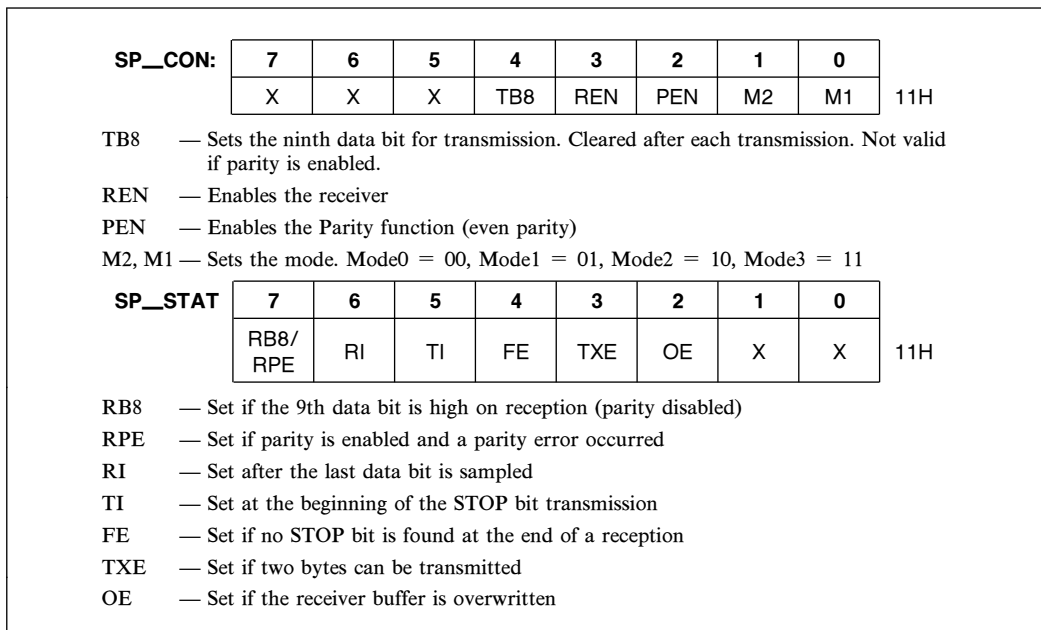

Figure 10-1. Serial Port Control and Status Registers
Control of the serial port is done through the Serial Port Control (SP\_CON) register shown in Figure 10-1. Writing to location 11H accesses SP\_CON while
reading it accesses SP\_STAT. The upper 3 bits of SP\_CON must be written as 0s for future compatibility. On the 80C196KB the SP\_STAT register contains new bits to indicate receive Overrun Error (OE), Framing Error (FE), and Transmitter Empty (TXE). The bits which were also present on the 8096BH are the Transmit Interrupt (TI) bit, the Receive Interrupt (RI) bit, and the Received Bit 8 (RB8) or Receive Parity Error (RPE) bit. SP\_STAT is read-only in Window 0 and is shown in Figure 10-1.